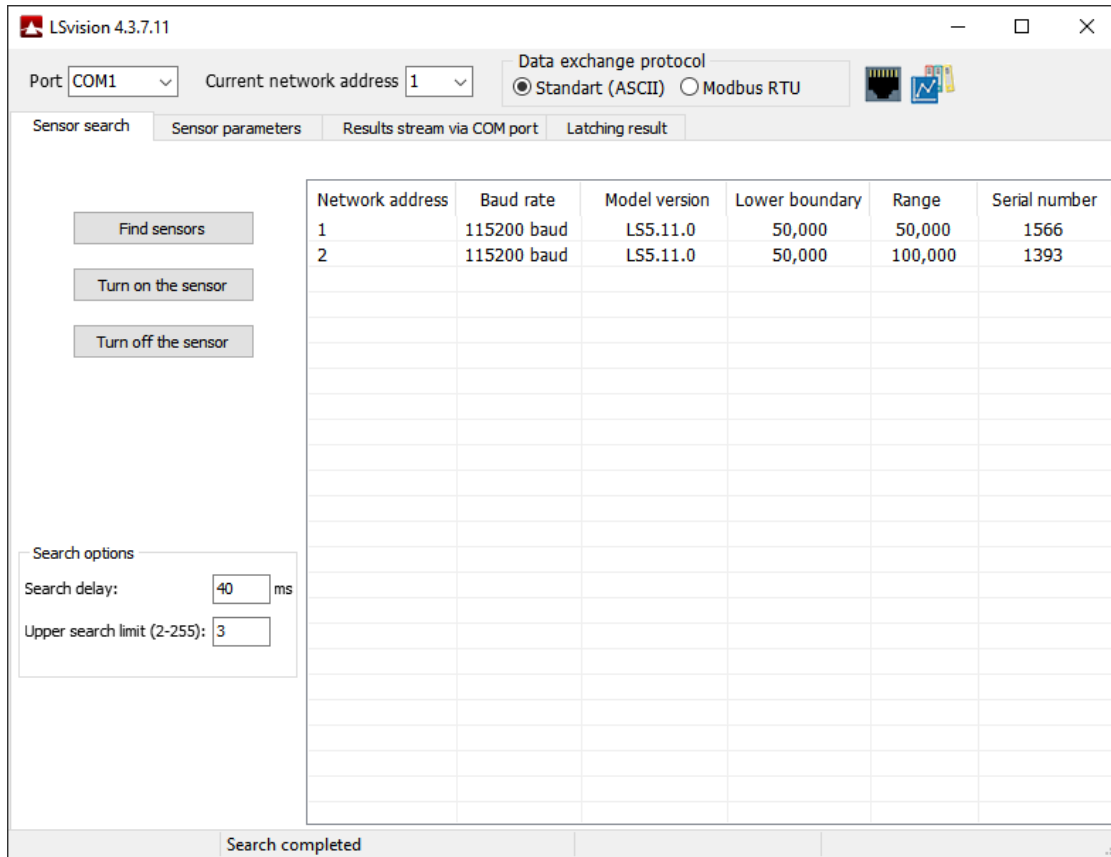

Figure 4.1 – Search of sensors
The «**Find sensors**» button launches the process of addresses scanning from the first to the predetermined one (the «**Upper search limit**» input area is used). After the scanning process is complete, a list of found sensors will appear in the list on the right side of the workspace (see fig. 4.1). This list contains information for each sensor about the type of sensor (serial number, measurement range, model), its address, and the baud rate at which the sensor is currently running.
**Note:** In most cases, it is enough to set a delay of 40 ms in the «**Search delay**» input area to guarantee the sensor detection (see fig. 4.1). During the routine maintenance of sensors, you can reduce the value to 20 ms, which will allow you to search for sensors faster. It is also recommended to reduce the upper limit of the search as much as possible.